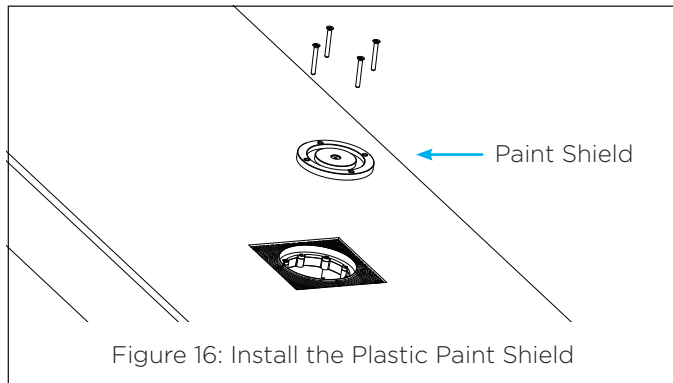

Figure 16: Install the Plastic Paint Shield
- Secure the assembly with screws of the correct length for the surface thickness through the inner threaded holes (see Figure 16).